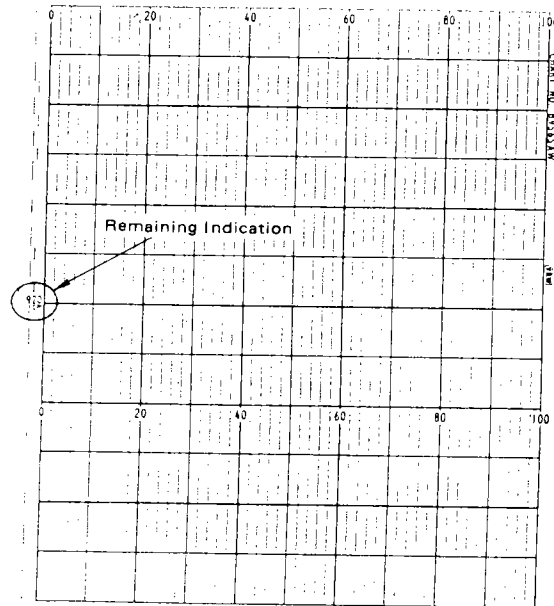
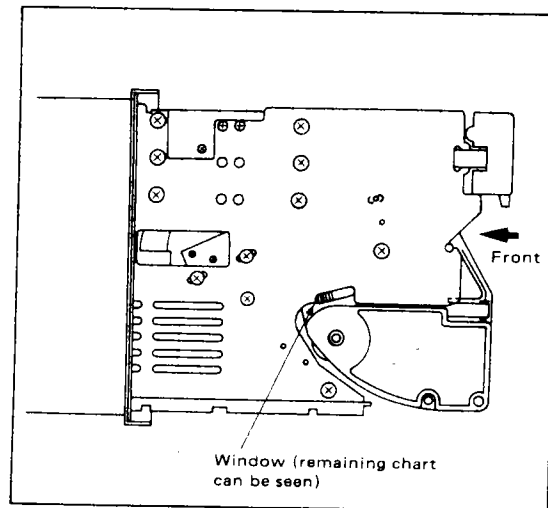

Figure 6-1. Chart Paper.
Figure 6-2. Remaining Chart Paper Check.
- (1) Are display and recording functioning properly?
- (2) Are there no blurred or broken sections of recording or printout characters?*
- (3) Is chart paper feeding properly?
- (4) Is there enough chart left?*
- (5) Is "BAT" displaying? (Memory backup batteries must be replaced).*
*2 The numerals showing remaining chart paper length are printed on the chart left side margin at intervals of 20 centimeters (see Figure 6-1). When the internal assembly is pulled out, there is a window — through which you can see remaining chart in the chart paper compartment — on the left side panel of the internal assembly (see Figure 6-2).